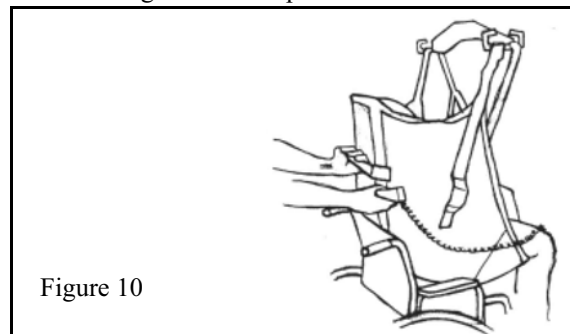

Figure 10
- 3 Before the resident/patient touches chair seat, and while resident/patient is still moving downward, grasp the sling handle at the mid-line of the resident/patient's back (if not accessible, use handles on the sides of sling). Keep elbow at 90° and grip the centre positioning handle with palm facing up while lowering, and guide the resident/patient into a proper seated position. This manoeuvre when done correctly will not cause shoulder strain (see Figure 10). The downward motion of the sling will cause the resident/patient to be lowered back into the chair, correctly sitting at a full 90 degrees (instead of sacral sitting) or as close to 90 degrees as physically possible.